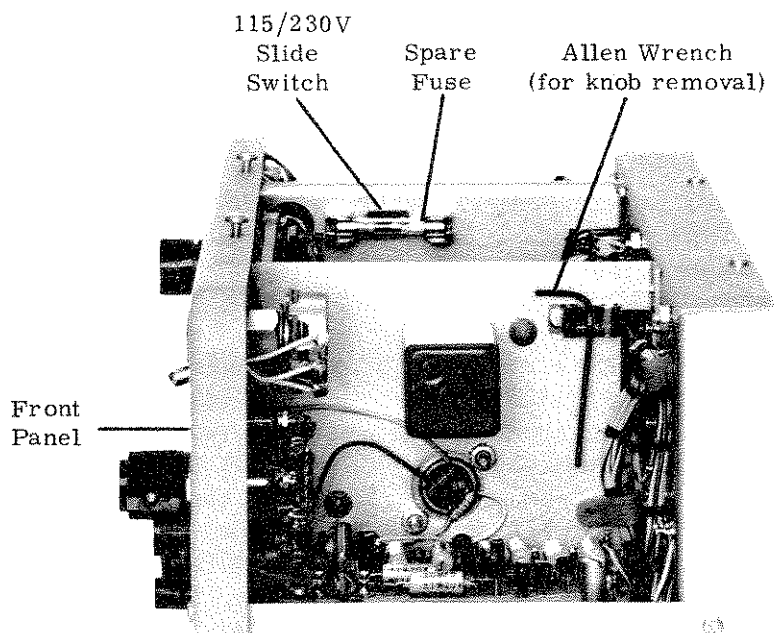

Figure 1-2. Location of 115/230V Switch, Spare Fuse, and Allen Wrench
1.12 The measuring set is shipped in a special packing box which should be saved if re-shipment is planned. A transit bag for the measuring set is shipped in a separate package. After unpacking, the unit should be checked for damage. If any damage is noted, advise WILTRON and file a claim with the transfer company. After unpacking, a performance verification may be performed as described in Section 3. If your local supply voltage is other than 115V ac, ensure that the 115/230V switch (inside the unit) is in the proper position for the local line voltage. See Figure 1-2 for location of switch and spare fuse.
1/10 A SB (Fuse): Provides circuit protection when line cord is connected to 115/230V ac lines. A spare fuse is mounted inside case. See Figure 1-2.